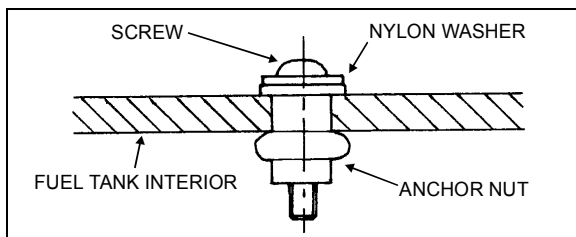

FIGURE 18: FUEL TANK REPAIR
5. Place assembly in drill hole. Tighten screw by 10 complete turns. Refer to Fig. 18.